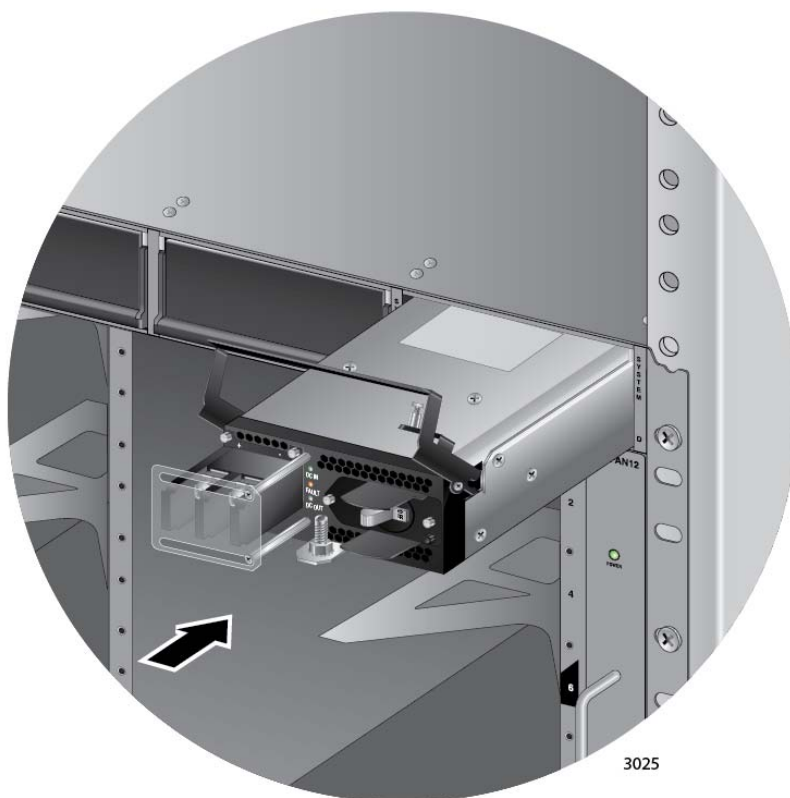

Figure 72. Inserting the AT-SBxPWRSYS1 DC System Power Supply
7. Align and insert the AT-SBxPWRSYS1 Module into slot C or D. Figure 72 shows the power supply installed in slot D.